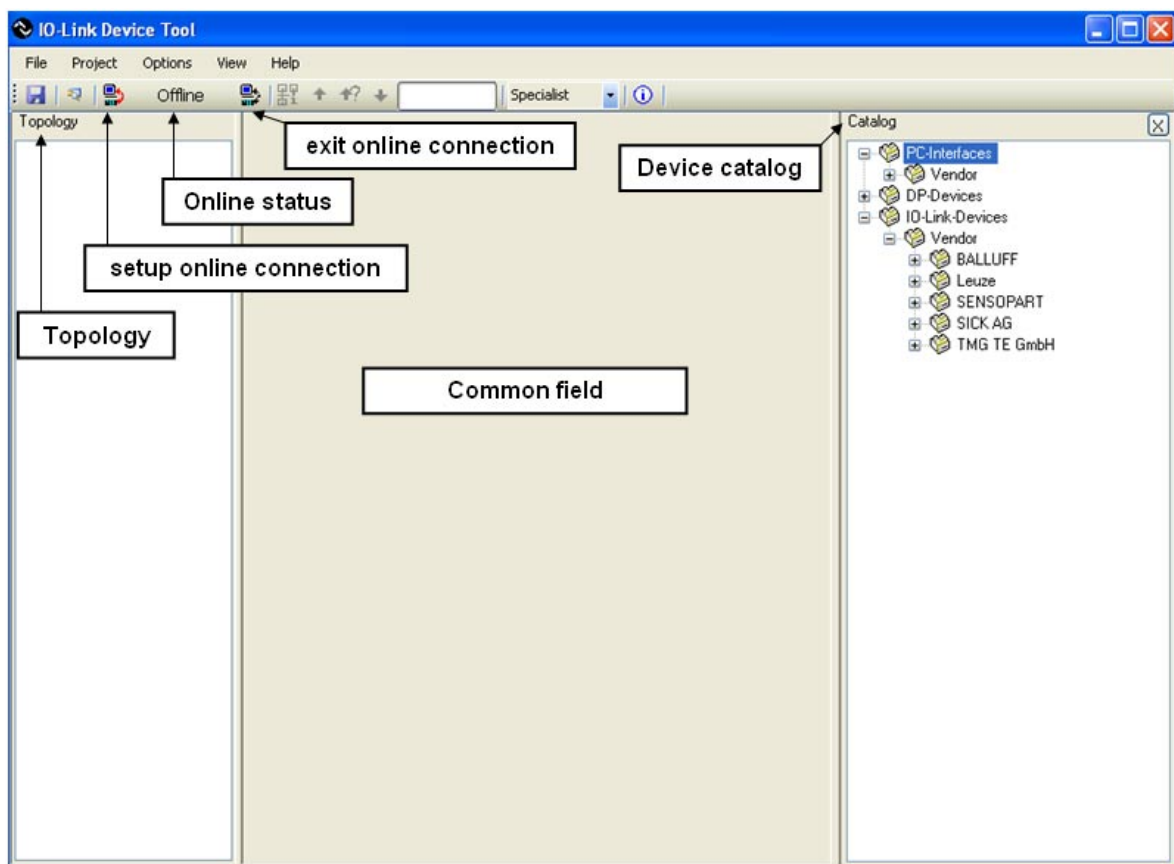

Figure 12-6. IO-Link Device Tool GUI
- (1) Launch the IO-Link device Tool.
- (2) Once the tool is up and running, two panes can be seen in the GUI (Topology on the left, and Catalog on the right), see Figure 12-6